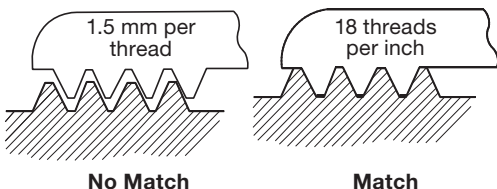

Fig. 3.
- c. Try the appropriate pitch gauge form for the threads identified in Step b. above until you find a match (Fig. 3).